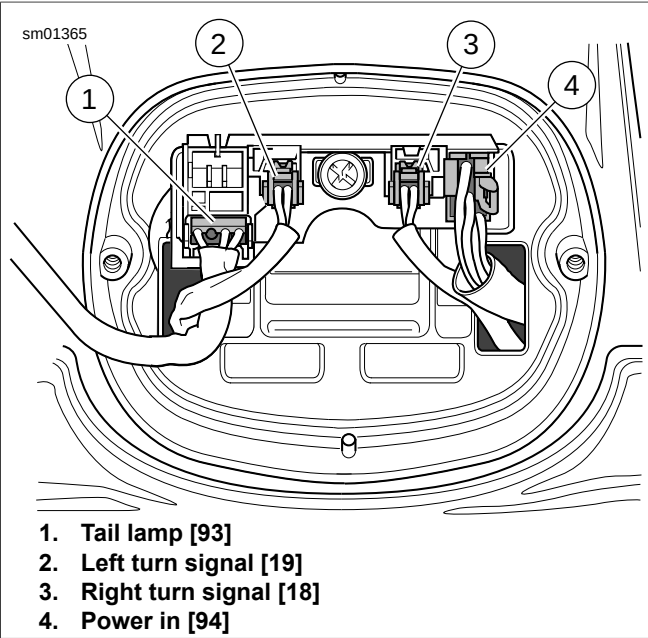

Figure 6-47. Tail Lamp Base Connectors
- See Figure 6-47. Press locking tab and remove 4-Pin multilock connector [93] (1) from circuit board.
- Press locking tabs and remove right [18] (3) and left [19] (2) two 2-Pin turn signal connectors and 6-Pin Power In connector [94] (4) from the circuit board.